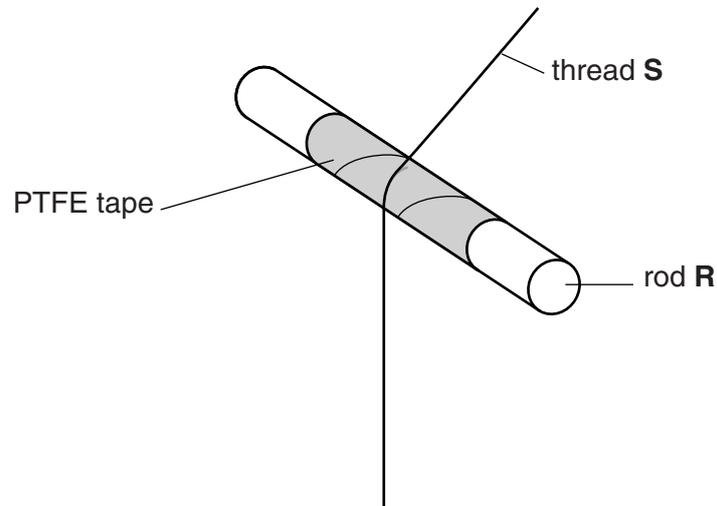

Fig. 1.3
- 10 Friction between the rod **R** and thread **S** is reduced by wrapping the rod with PTFE tape (see Fig. 1.3). The pivot rod may also be wrapped in PTFE tape if this is found to help the rule to pivot more freely.